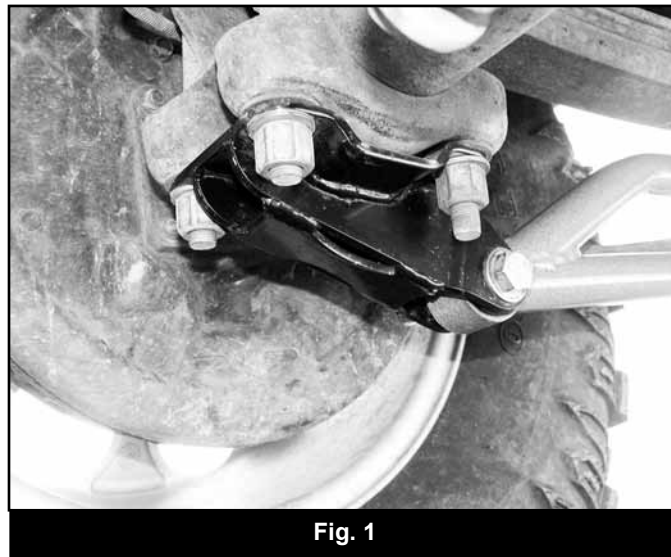

Fig. 1
3. With the OE u-bolt plate in place, install a 9/16" SAE washer on each end of the u-bolts followed by the new traction bar mount bracket (01811). Make sure the mounting tabs on the bracket are to the front of the vehicle. Fasten the bracket with the u-bolt (new or used) nuts and washers (Fig 1). Torque u-bolts to 100-120 ft-lbs.